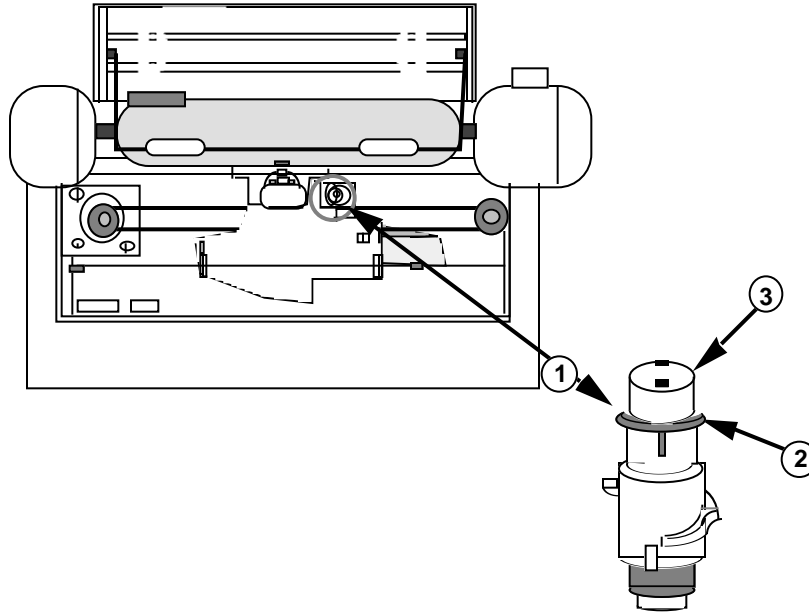

FIGURE 1
There are three possible versions of the ribbon assembly currently in circulation: two newer assemblies and one older assembly. If you have an ImageWriter II with a serial number of 244451 or above, you have one of the newer assemblies and will have the color ribbon assembly shown in Figure 1. One of the assemblies is adjustable; the other isn't. To find out which assembly you have, try following the "New Assembly" procedure. If you cannot turn the top of the assembly (do not force it or the red locking ring), then you have a nonadjustable version of the assembly and you must install a new assembly. If the top assembly turns, then follow the rest of the procedure for the new assembly. The older version is shown in Figure 2. For this version, follow the "Old Assembly" procedure. Before you begin either procedure, perform the steps below:
2. Locate the color ribbon assembly (Figure 1, #1).
Note: Before you begin the adjustment, push down the red locking ring (Figure 1, #2), and then hold it while making the adjustment. The locking ring prevents the adjustment from changing once it is set.
b) Grasp the top of the assembly—the part that has the arrow imprinted on it (Figure 1, #3)—and turn the top in the correct direction two full turns. (Two turns are recommended to start with; it is possible that more or fewer than two turns will be needed to rectify the condition.)